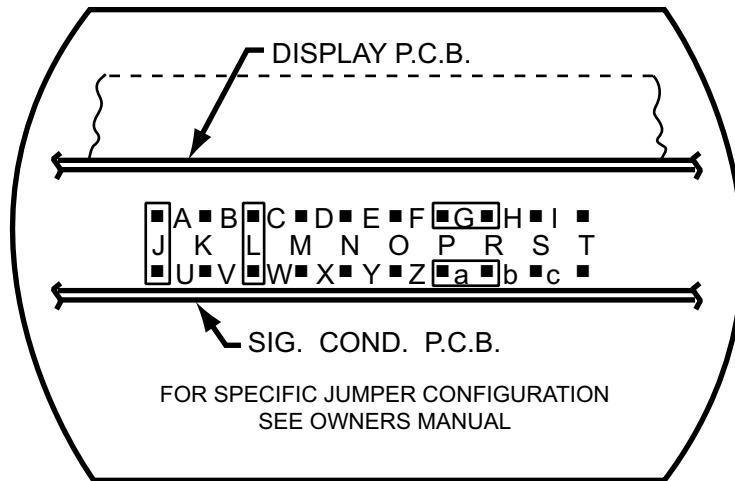

Figure 5-4. Jumper Locations
The unit may be configured using the push-on jumpers already positioned on the pin-forest. Pin-forest designations are illustrated in **Figure 5-4**.
Pin-forest designations are illustrated in **Figure 5-4** Jumper Locations. Range and display selection are listed in **Table 5-1** Configuration Chart.
2. Select the desired jumper configuration and install push-on jumpers in locations indicated in the **Table 5-1** Configuration Chart. (See **Figure 5-4**)